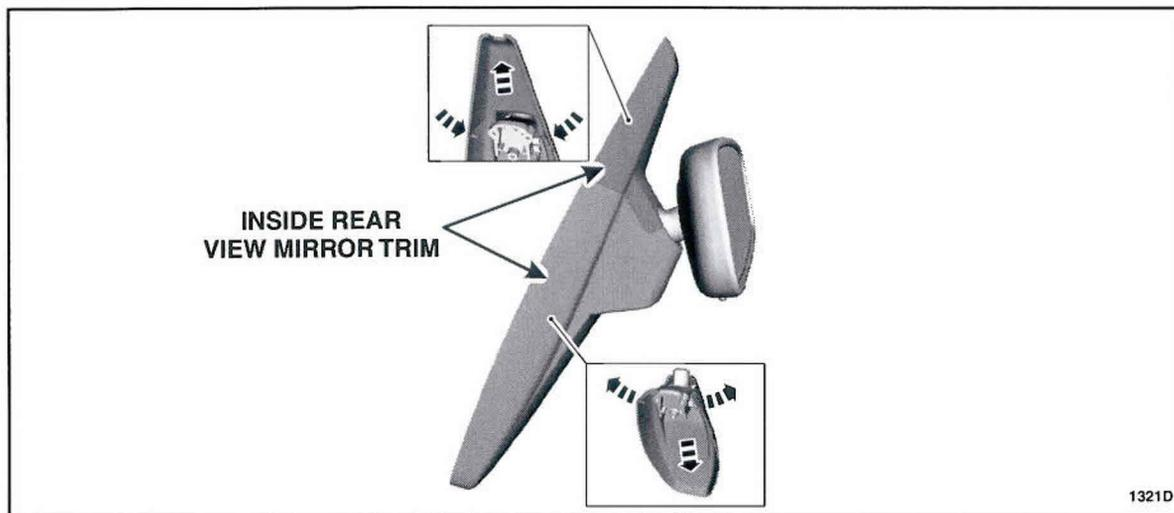

FIGURE 7
- If equipped, remove the inside rear view mirror trim. See Figure 7.
27. If equipped, install the inside rear view mirror trim. See Figure 7.